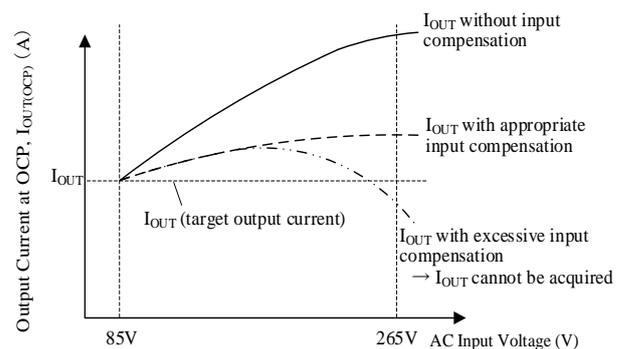

Figure 9-22. AC Input Voltage vs. Output Current at OCP (with or without OCP Input Compensation Function)
The IC has the input compensation function that compensates the Overcurrent Detection Threshold Voltage,  $V_{OCP}$ , according to AC input voltages. In an application using a quasi-resonant converter with universal input (85 VAC to 265 VAC), the peak drain current of the power MOSFET decreases due to a higher operation frequency caused by an increased input voltage under a condition of constant output power. When the overcurrent detection threshold voltage is fixed and adjusted with the maximum load taken into consideration, the higher the  $I_{OUT(OCP)}$ , the higher the AC input voltage as shown in “without OCP input compensation” in Figure 9-22.
$V_{ROCP}'$  reduces the difference in  $I_{OUT(OCP)}$  at the maximum and minimum AC input voltage range so that  $I_{OUT(OCP)}$  at the maximum AC input voltage is adjusted to the target current,  $I_{OUT}$  or higher as shown in Figure 9-22.
$I_{DP(OCP)}$  in the maximum AC input voltage should be set to the drain current where the output current is equal to “ $I_{OUT}$  with appropriate input compensation” in Figure 9-22.
4) In the maximum AC input voltage (265 VAC) condition, measure the drain current,  $I_{DP(OCP)}$ , when the output current,  $I_{OUT(OCP)}$ , becomes the “ $I_{OUT}$  with appropriate input compensation” in Figure 9-22.
- 6) Confirm that the output current during OCP operation,  $I_{OUT(OCp)}$ , is similar to “ $I_{OUT}$  with appropriate input compensation” in Figure 9-22, in an actual operation throughout AC input voltage ranges with the constants set in 5). If  $I_{OUT(OCp)}$  is not appropriate, be sure to adjust the constants of  $DZ_{X1}$  and  $R_{X1}$  by changing the compensation startup voltage,  $V_{IN(OCp\_ST)}$ .